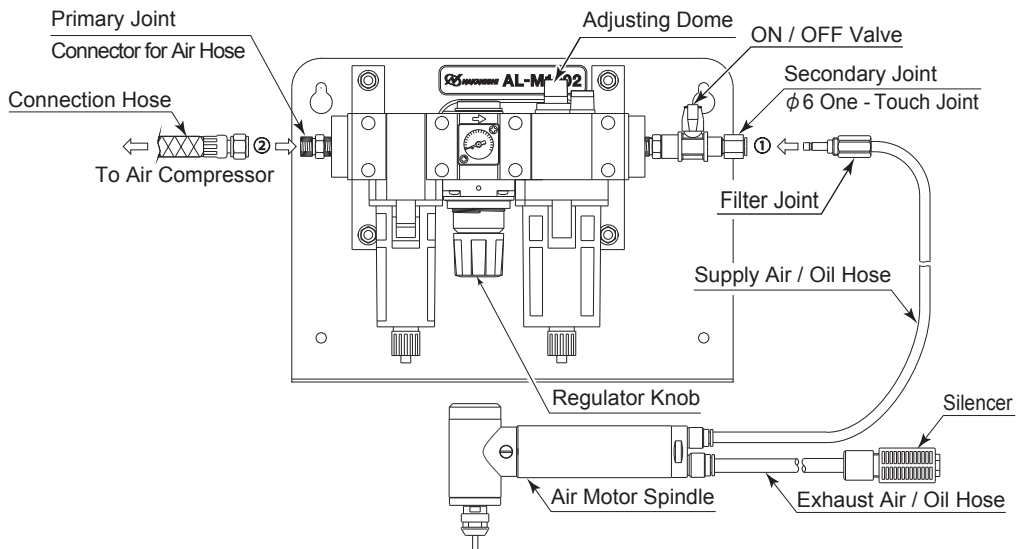

Fig. 16 Connection of Air Line Kit " AL - M1202 (Sold Separately) "
- ① Connect the Filter Joint of the supply air / oil hose to the Secondary Joint (ϕ 6 One - Touch Joint) of the Air Line Kit (Fig. 16 ①).
- ② Fill Oil Reservoir through the Oil Filler Cap with recommended NAKANISHI Lubricating Oil (K - 211 : Air Line Kit's Standard Accessories) to Upper Limit. Disconnect from air supply prior to opening Oil Filler Cap. Do not over or under fill.
- ③ Connect the connection hose (Air Line Kit's Standard Accessories) to the Primary Joint of the Air Line Kit and Compressor (Fig. 16 ②).
- ④ Supply air from the air compressor and turn the Regulator Knob to set air pressure between 0.3 - 0.5 MPa (43.5 - 72.5psi).
- ⑤ Turn the ON / OFF Valve and rotate the Air Motor Spindle with recommended proper air pressure. Adjust the Oil Drip Rate to the recommended volume which is 1 to 3 drops / min (Commercially Air Line Kit is same Oil Drip Rate).
- ⑥ Be sure to adjusted to proper Oil Drip Rate before using the Air Motor Spindle.